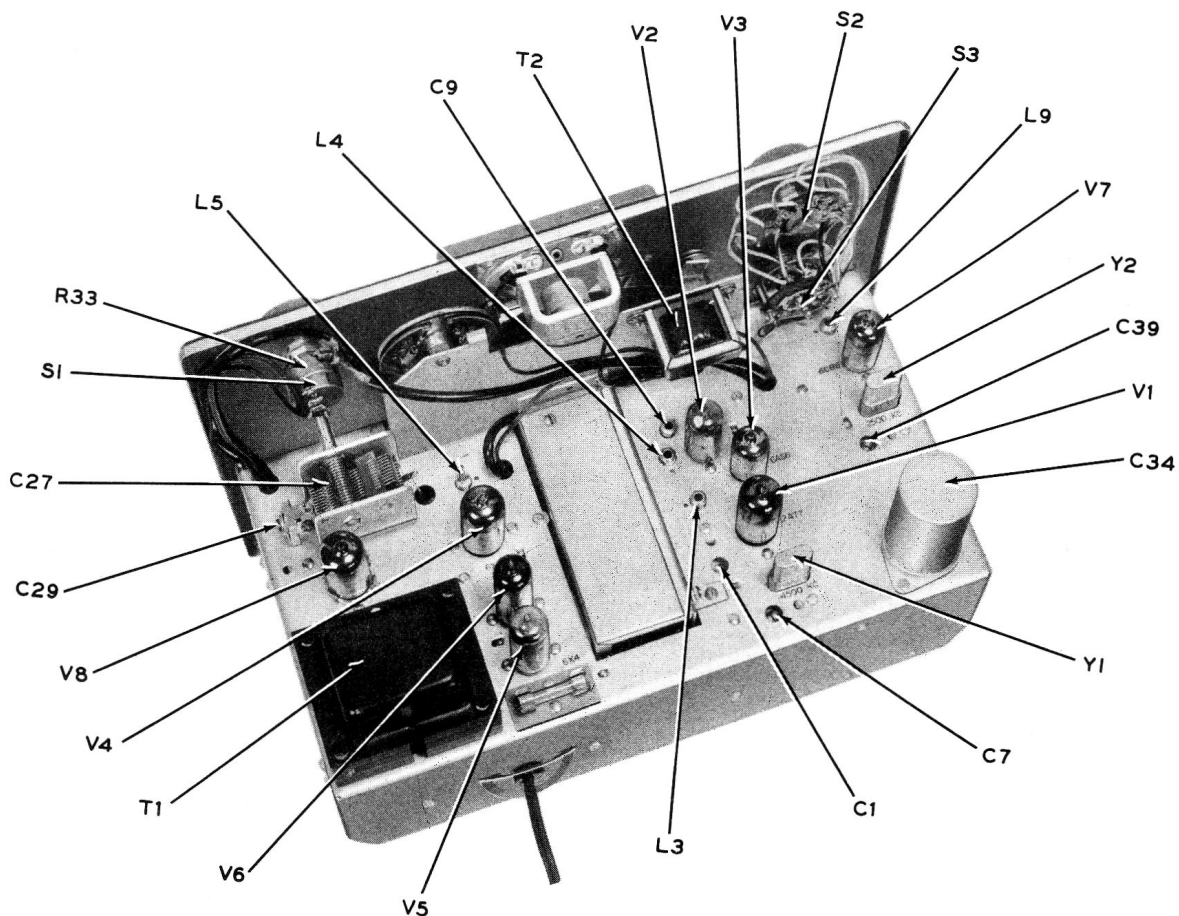

Figure 22. Top of chassis view of WR-89A showing locations of tubes, components, and alignment adjustments
A schematic diagram of the WR-89A is shown on pages 16 and 17. Locations of internal calibration adjustments are shown in Figure 22. If it becomes necessary to replace any of the component parts, only RCA replacement parts or their equivalents should be used. When ordering replacement parts for the generator, consult the Replacement Parts List on page 18 and specify the code and serial numbers of the instrument as well as the stock number of the replacement part.
5. With an alignment screw driver, adjust C7 in the WR-89A to obtain a zero-beat note in the receiver. Take care to produce a note as low pitched as possible. Location of C7 is shown in Figure 22.